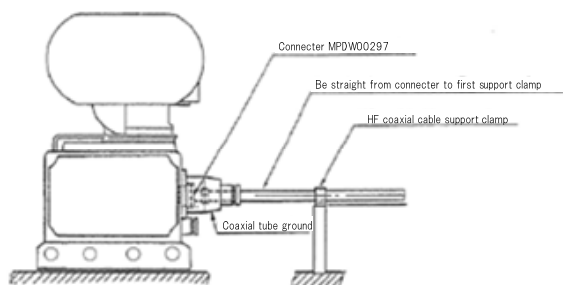
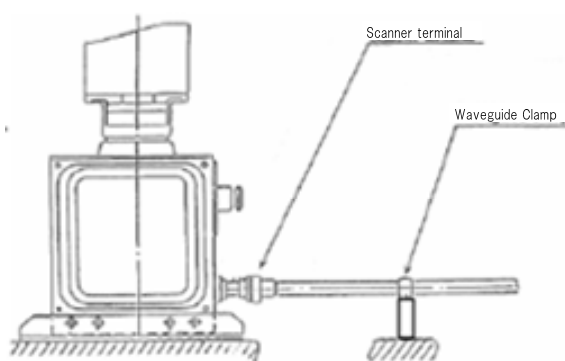

Fig 2-11 Position of S-band supporting member
Fig 2-12 Position of X-band supporting member
- Keep the connecting portion between the coaxial cable and the flexible wave guide and the scanner's chassis, and provide supporting members, as shown in **Fig 2-11 Position of S-band supporting member** and **Fig 2-12 Position of X-band supporting member**, to prevent the connecting portion from becoming detached due to vibration.